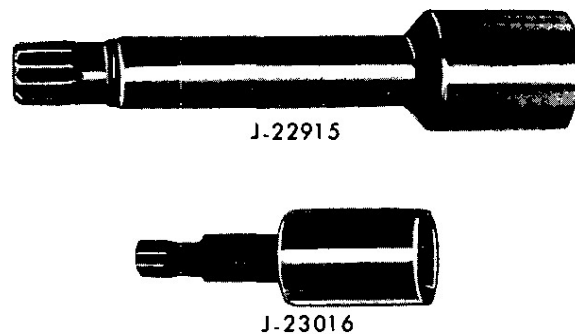

Figure 6A-17 Serrated Bits
7. Remove 10 cylinder head bolts using 12 MM serrated drive J-22915, and 2 cylinder head to timing chain cover bolts with a 6MM hex head wrench. See Figure 6A-17.